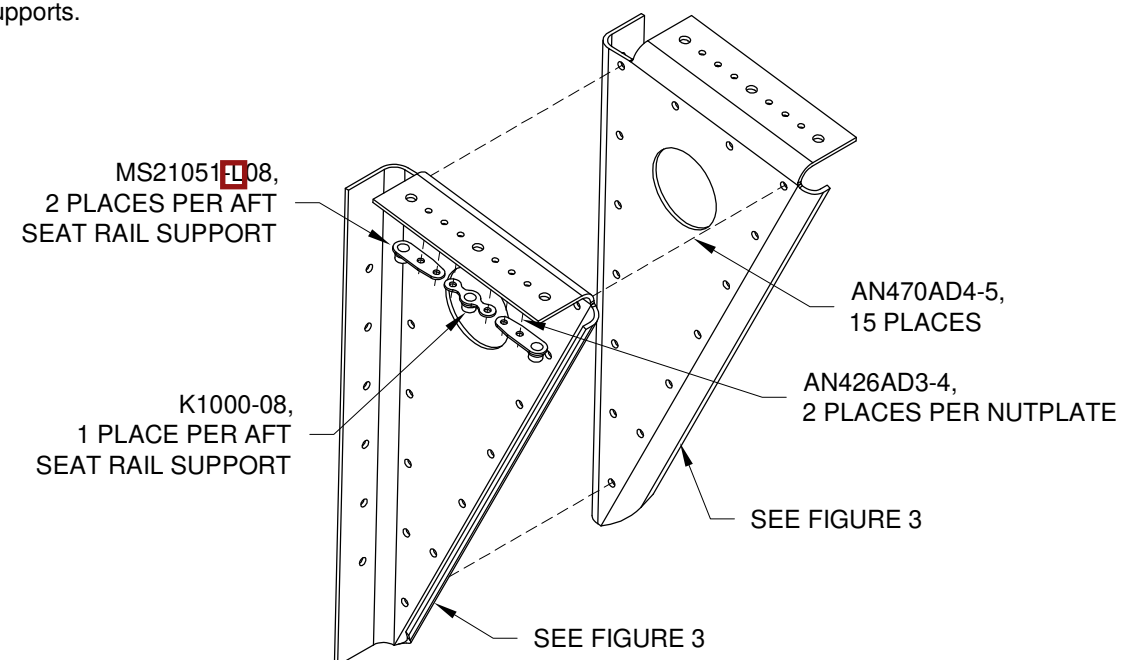

FIGURE 1: TYPICAL AFT SEAT RAIL SUPPORT SUBASSEMBLY
Step 1: Cleco the F-1004S-L and F-1004R and the F-1004R-L and F-1004R-R Aft Seat Rail Supports together as shown in Figure 1 and called out in Figure 2 to create four Aft Seat Rail Support Subassemblies. Final-Drill #30 all the holes common between both parts in all four subassemblies. Final-Drill #40 the nutplate attach holes and #19 all the screw holes in the upper flanges of all the aft seat rail supports.